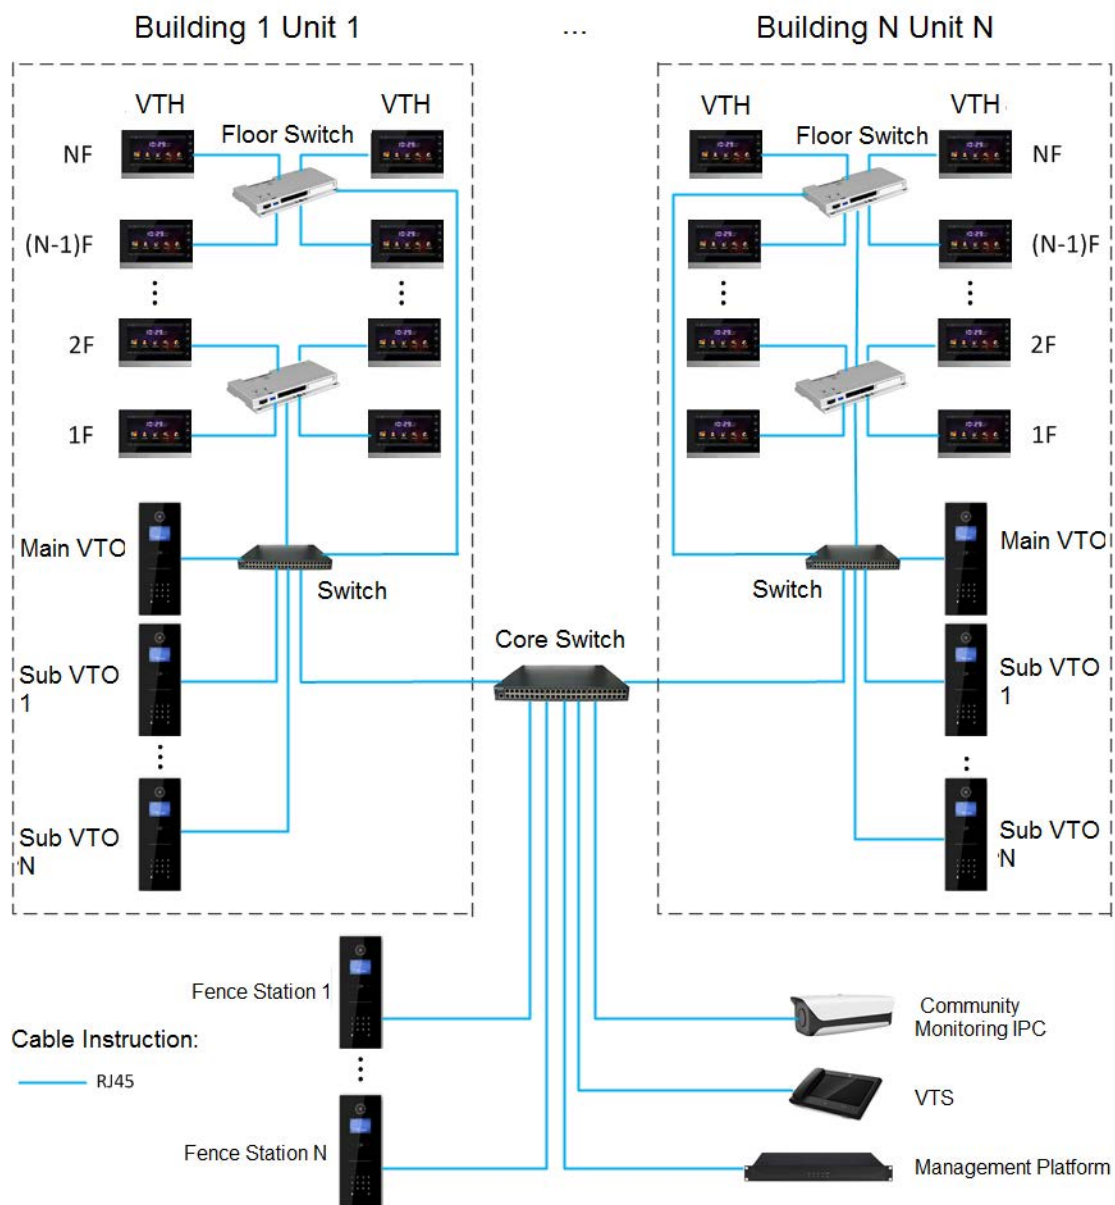

Figure 3-2
- VTH adopts PoE power supply from floor switch, as shown in Figure 3-2.